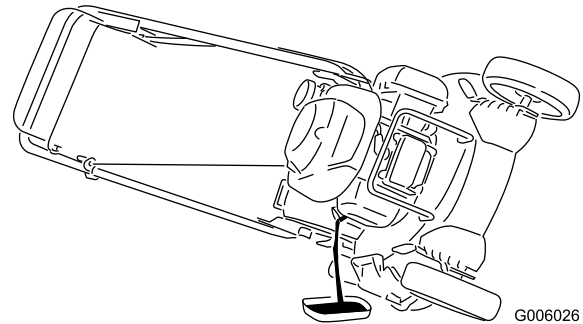

Figure 37
3. Tip the machine onto its side, with oil fill tube down, to drain the used oil out through the oil fill tube into a pan (Figure 37).